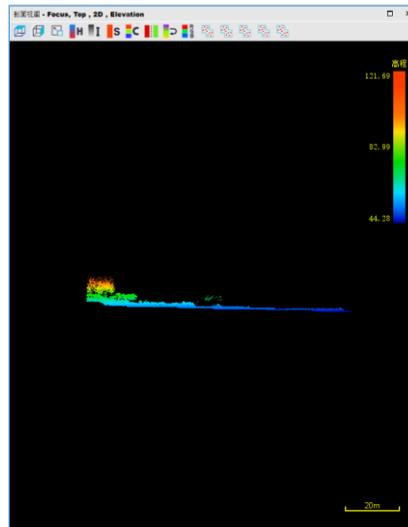

Figure 3-151 Profile view display
2. Not set a fixed size buffer, move the mouse perpendicular to the profile line, click the left mouse button to determine the size of the profile buffer. After the drawing is completed, the resulting profile view will be displayed in the Profile View window (Figure 3-151).